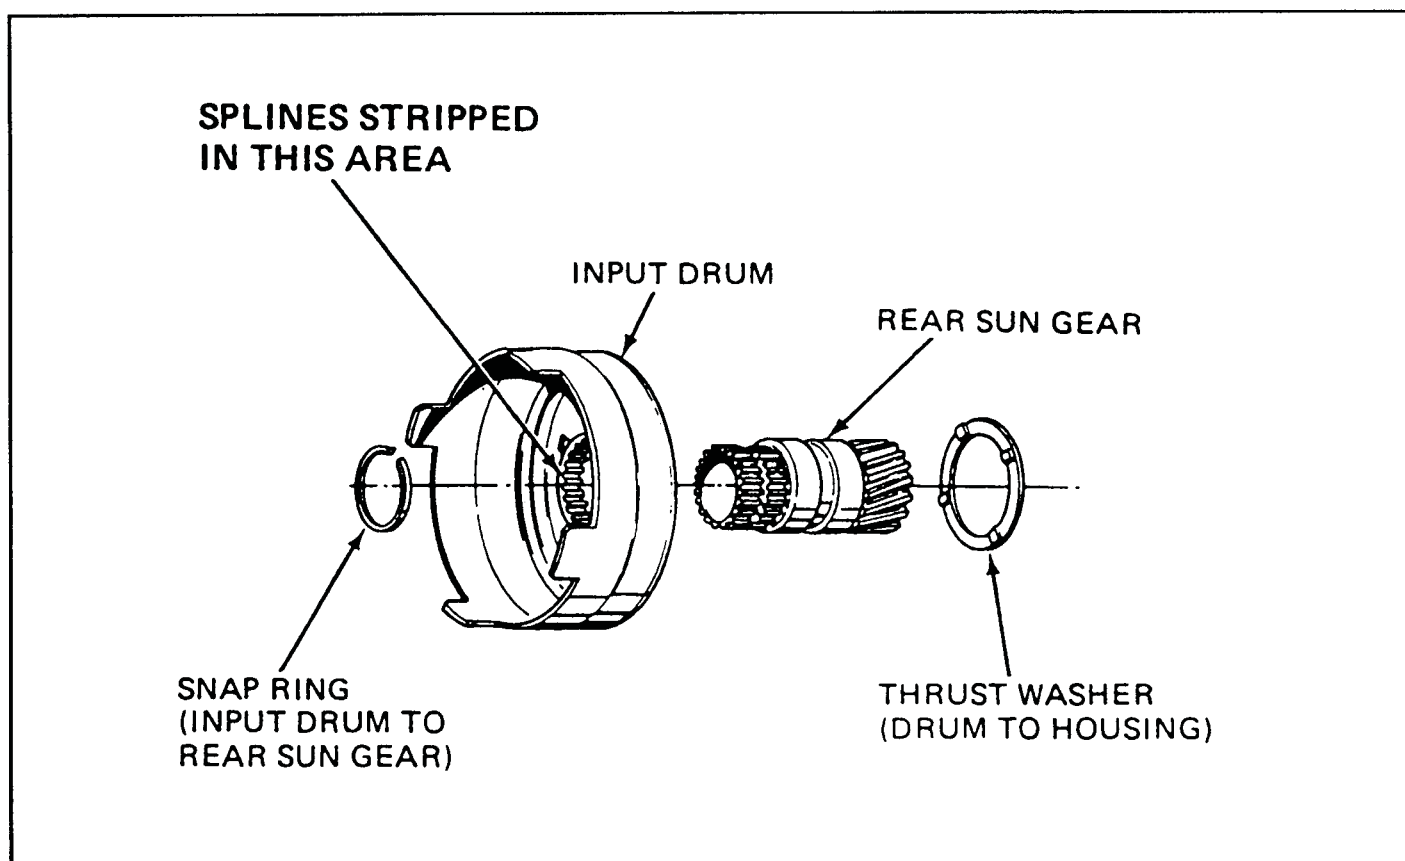

Figure 126
**CAUSE:** The cause may be, the splines stripped on the inside of the sun gear shell where it splines onto the sun gear (See Figure 126).
**CORRECTION:** Always replace the sun gear shell with the newest design level which has **hardened** splines. The **hardened** sun gear shell can be recognized by the black appearance from the heat treating process in the spline area (See Figure 126).